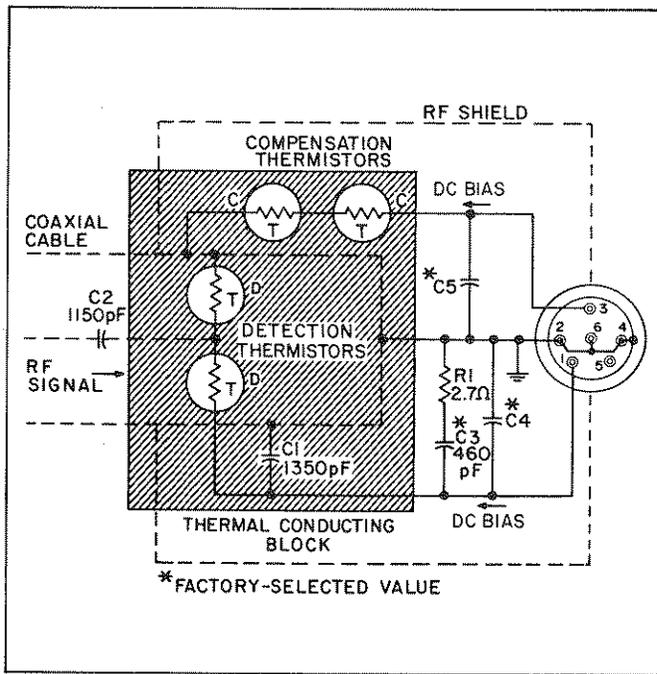

Figure 6. Schematic Diagram of a Model 478A Thermistor Mount when Connected to a 432 Power Meter
51. During 432 operation (see Figure 6) sufficient amounts of dc current are supplied from 432 Power Meter to heat the thermistors until their resistances are reduced to approximately 200Ω per series pair. Capacitor C1 is practically a short to RF. This causes "D" to appear series connected to the dc bridge, parallel connected to RF. In this manner, "D" appears to the dc bridge in the 432 Power Meter as a 200Ω resistance that terminates the coaxial cable into 50Ω. Capacitor C2 blocks any dc and audio power that may be present in the incoming signal and passes only RF power.
55. Under normal operation the total power applied to heat thermistor pair "D" (see Figure 6) consists of: 1) RF signal and 2) heat from the environment. The total power supplied to heat thermistor "C" consists of: 1) dc bias and 2) heat from the same environment. As "D" and "C" are matched thermally, the total amounts of heat applied to reduce their series resistance equally must be equal.
59. Match between the thermistors may be checked by comparing the thermistor resistances under simulated operating conditions. Equipment required is indicated in Figure 6. Make connections to the connector at the rear of the thermistor mount; pins are shown in Figure 6. Note that the small battery in series with the HP Model 3440 Digital Voltmeter is connected in opposition